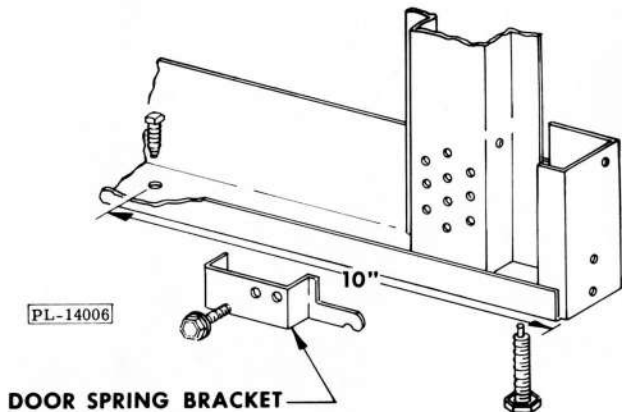

Fig. 20
3. Adjustment is provided by changing door spring mounting bracket (Fig. 20) location on the vertical frame member.